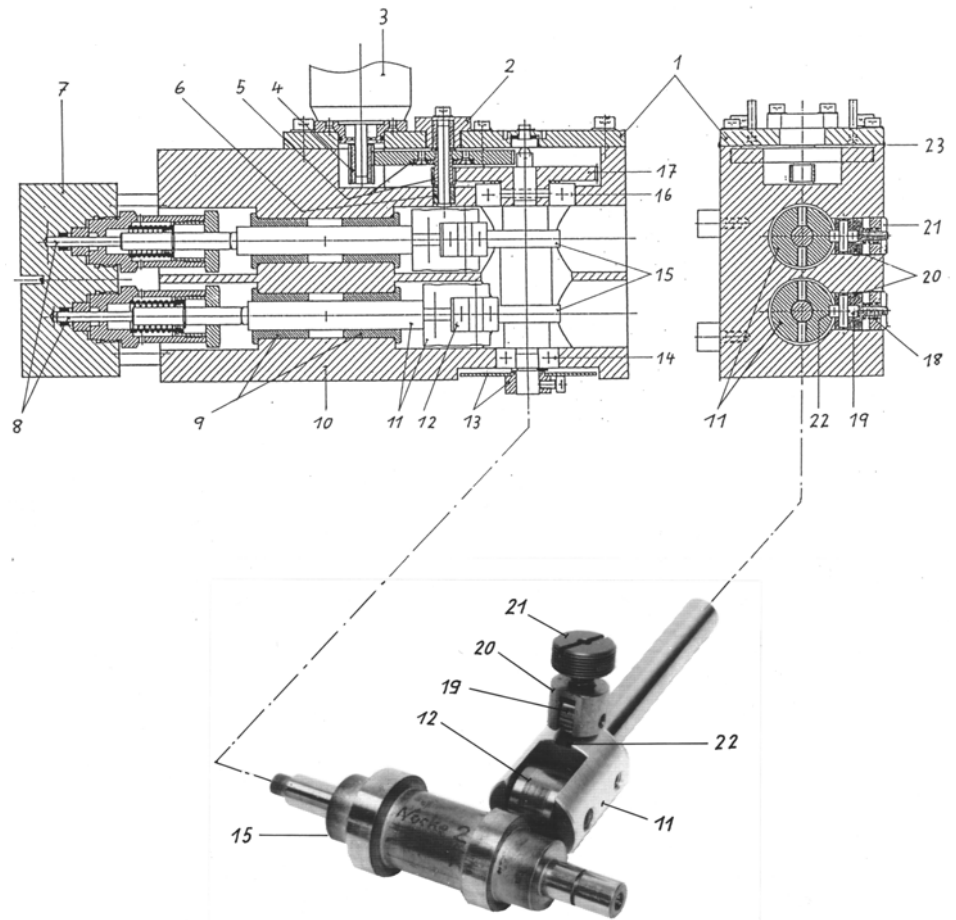

Fig. 11. Construction of LC 100 gear box.
**During installation or fitting a new motor pay attention to ply between motor pinion and spur wheel during alignment (to minimize noise). See 4 and 5 in Fig. 11.**
To avoid leakage, the contact surfaces of the cover plate 1 and gear body are sealed by means of a sealing compound. Note: if the cover plate 1 of Fig. 11 must be removed take away the old sealing compound and put new one. When fastening the screws take care of the play between motor pinion and spur wheel (5).
Identification of parts of gearbox in Fig. 11: